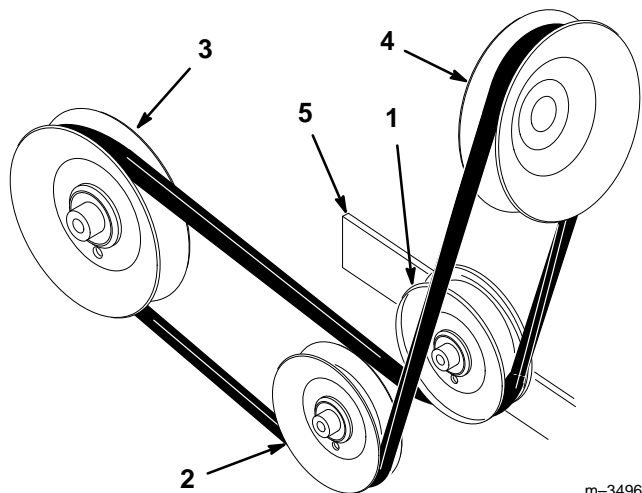

Figure 18
3. Lift up on the lift handle of the snowthrower idler pulley to create enough slack to remove the belt (Fig. 18).